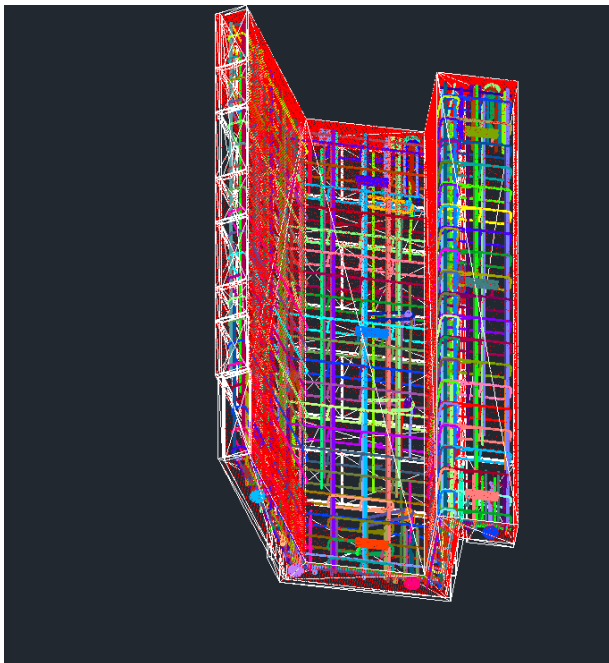

Figure 6. An example of a precast moulds processed by BuiltView for Quality Checks at Laing O'Rourke's manufacturing facility, Explore Industrial Park, UK
- *Precast Elements*: Due to time consuming manual QA processes, it is estimated only 5%-10% of precast units are surveyed in manufacturing facilities prior to delivery. An example of these units is depicted in Figure 6. With BuiltView, this percentage can reach 100% at no additional cost. In practice, BuiltView was used to run automated quality checks on bridge culverts that were scheduled to be installed on a \$240 million train bridge project. By detecting defects in a single culvert early in production, BuiltView prevented defects in the remaining 40 precast replicas - preventing rework-related costs and delays.